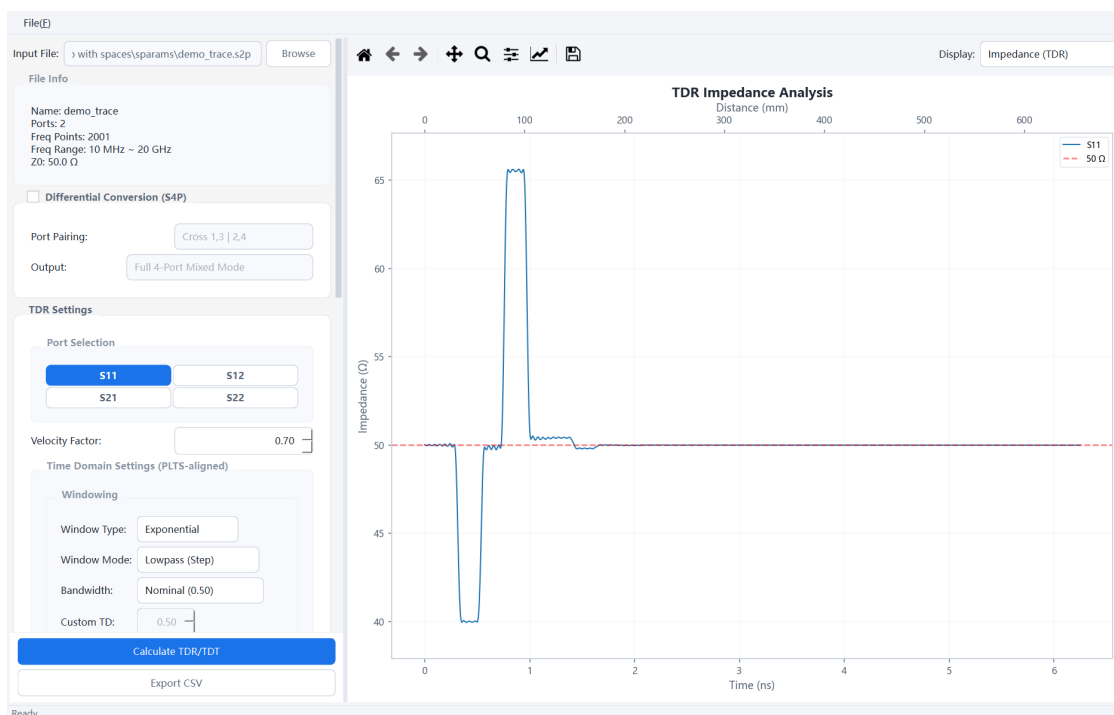

Fig. 7-1 TDR impedance profile
Step 1 Menu **S-Parameter Analysis** → **TDR**, pick demo\sparms\demo_trace.s2p, tick S11, select impedance and set velocity factor to **0.70**. Disable gating, renormalization and causality processing; use zero port delay to compute a basic response (Fig. 7-1).